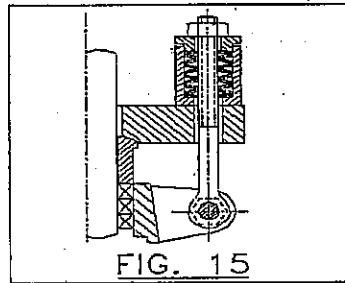

FIG. 15
- *Figure 15* ► it represents a detail of live loaded packing.